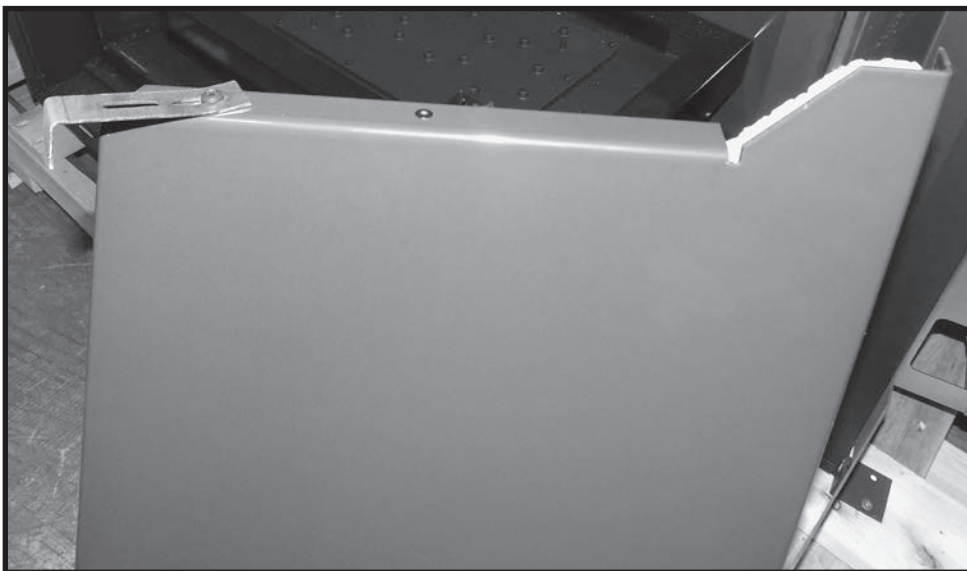

Figure 13: Right side panel with clip attached.
11. Attach a panel clip on each of the side panels (Figure 13). These clips will fit over the upper rear panel, holding it in place.